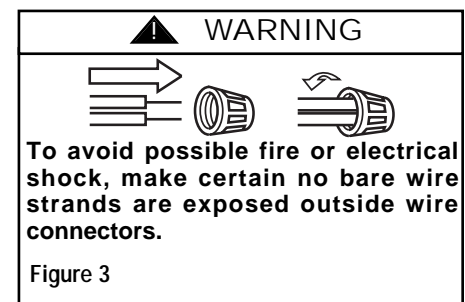

Figure 3
- Insert the black and white wires through the lockwasher(8) and hex nut(7) supplied. Firmly tighten the hex nut to secure the light fitter to the switch housing cover(5).
- Carefully locate the white and blue wires (labeled either "L" or "LIGHT") in the switch housing and remove the wire connectors(3) from the wires.
- Connect the white wire from the ceiling fan to the white wire of the light fitter(6). Connect the blue wire from the ceiling fan to the black wire of the light fitter. Use listed wire connectors(3) (previously removed in Step 5) to make connections. (Figures 3 and 4).